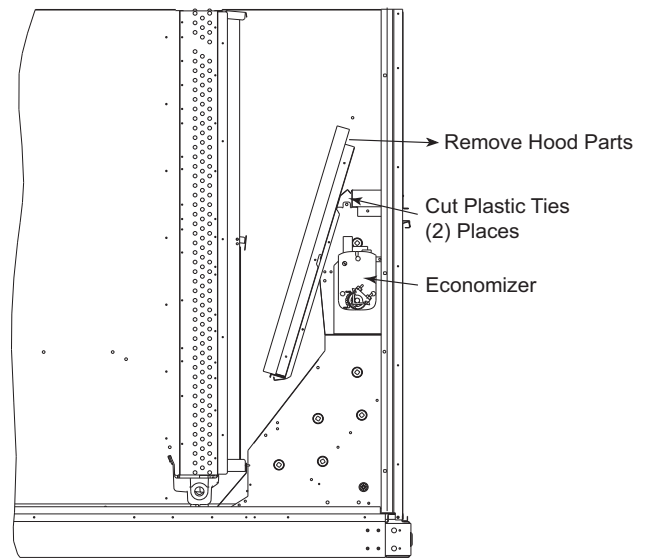

Fig. 11 — Economizer Hood Package Location
Locate the carton containing the outside air hood parts; see Fig. 11 and 12. Do not remove carton until unit has been rigged and located in final position.
3. Locate and cut the (2) plastic tie-wraps, being careful to not damage any wiring. See Fig. 11.